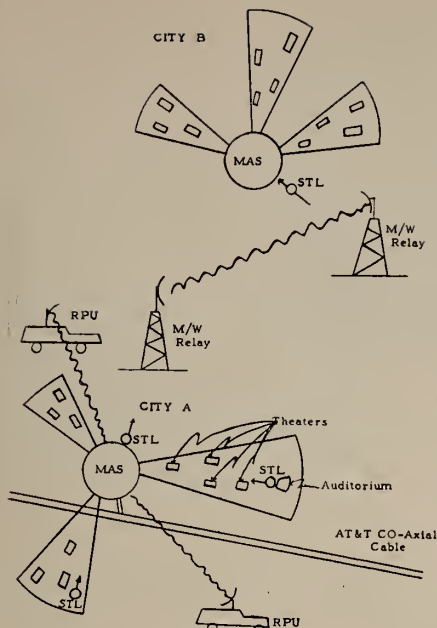

FIGURE 1
*intercity* radio-relay facilities built by the theater Tv groups, such as the radio relay contemplated in Fig. 1 between City A and City B. It would also limit the use that theater Tv might make of the radio-relay facilities offered on a common-carrier basis by Western Union.